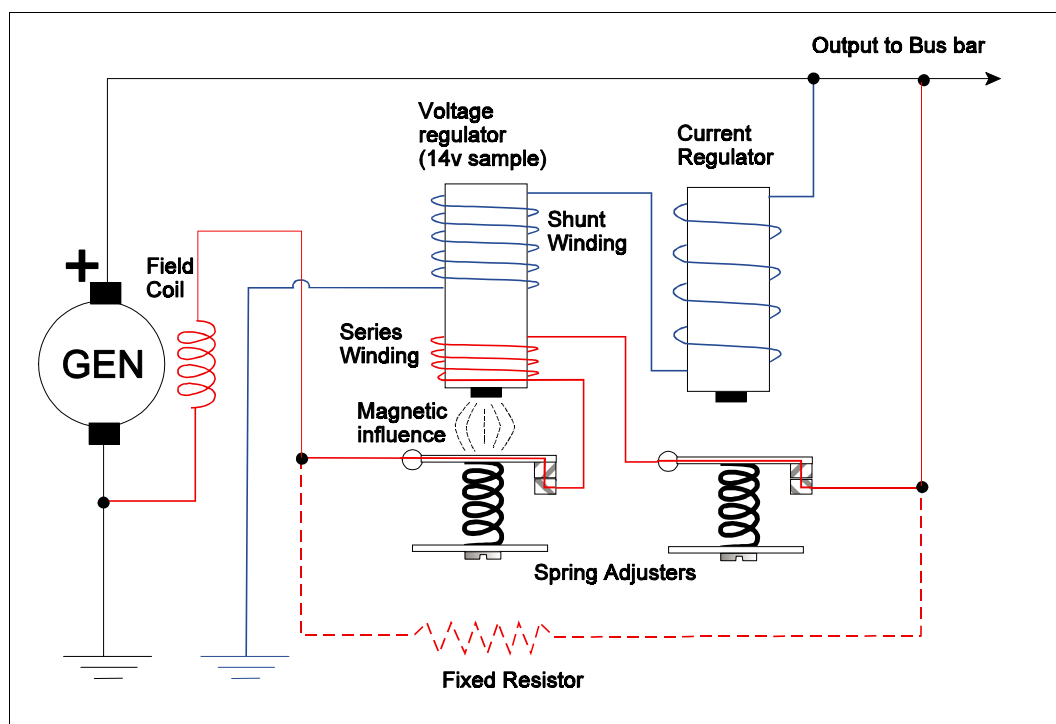

Figure 6.19 Vibrating Contact Voltage Regulator
**The vibrating contact voltage regulator** (Figure 6.19) controls the voltage output in a similar fashion but instead of varying a resistance it rapidly switches in and out a fixed resistance.